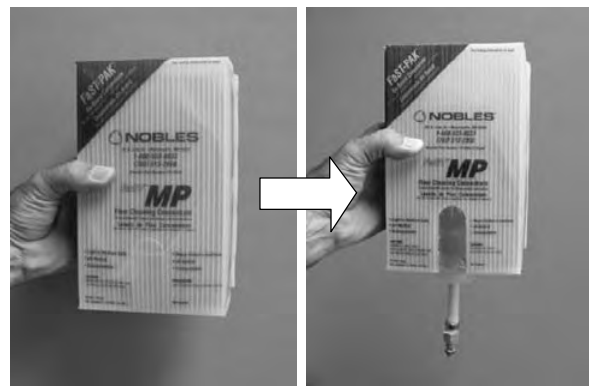

FIG. 11
1. Remove the perforated knock-out from the FaST-PAK carton. Do not remove the bag from the carton. Pull the hose connector through the knock-out and remove the orange cap (Figure 11).